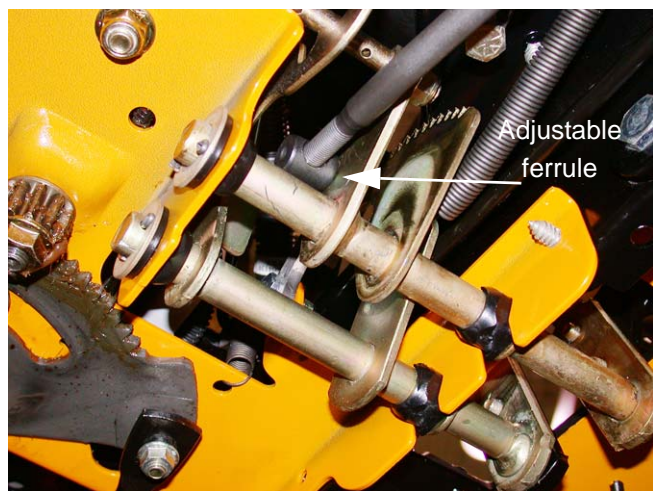

Figure 24.12
24.12. Disconnect the control rod from the pedal shaft by removing the cotter pin that secures the adjustable ferrule on the rod to the shaft. See Figure 24.12.